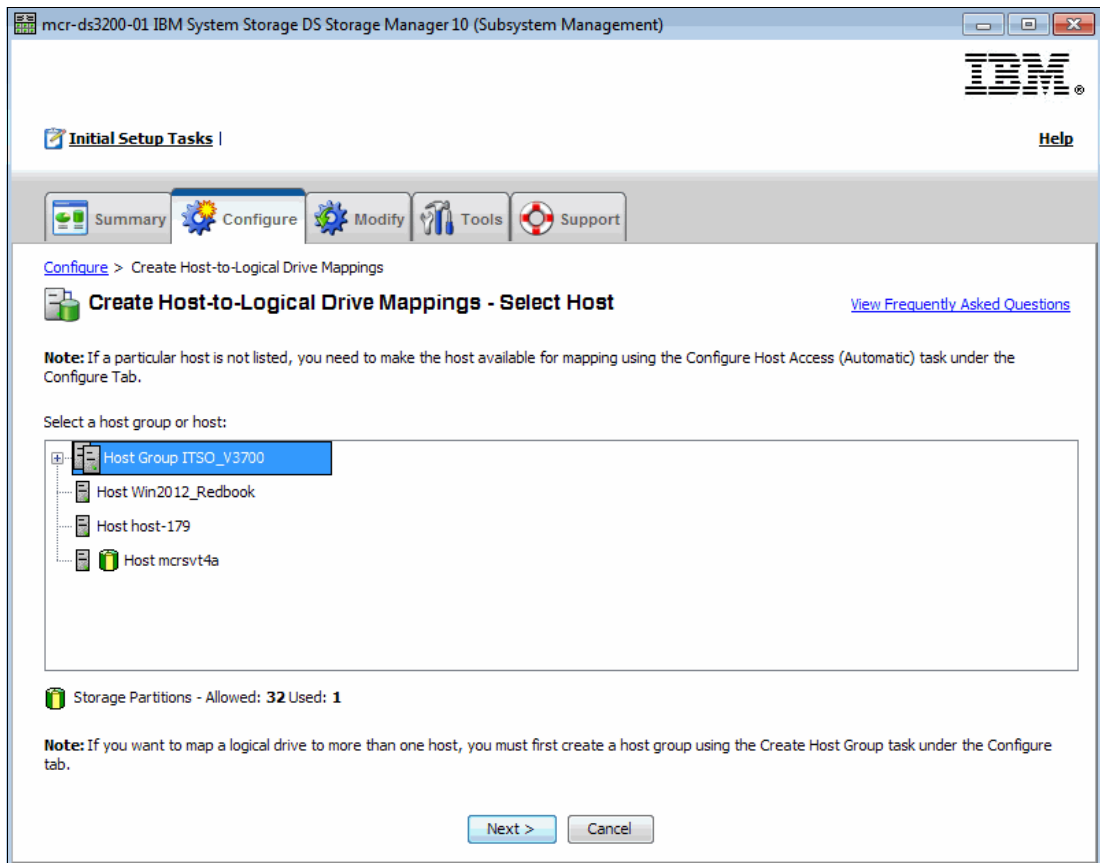

Figure 6-38 Selecting new Storwize V3700 host group: IBM DS3200
4. A wizard starts, to guide you through the steps of creating the new host mappings. Select the new Storwize V3700 host group from those displayed and click **Next**, as shown in Figure 6-38.
- Click **Yes** if you have more volumes to map to the new Storwize V3700 host definition, and repeat the steps from Figure 6-38 on page 280. Click **No** if there are no more volumes to be mapped to exit the wizard.
- If the SCSI ID was not set correctly when mapping the external volume to the Storwize V3770, as shown in Figure 6-38 on page 280, it can be changed now. Click **Edit SCSI ID** and modify as required. The SCSI ID should reflect the same SCSI ID that was recorded in 6.2.5, “Recording migration information” on page 252.